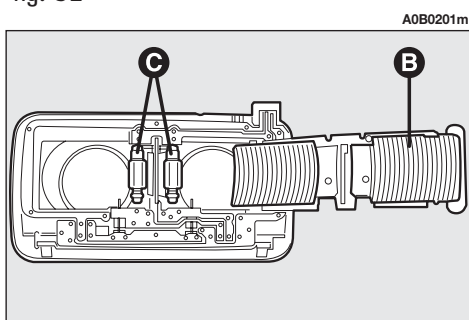

fig. 53
- Open the cover (B-fig. 53).
- Replace the bulb concerned (C-fig. 53) by pulling it outwards and freeing it from the lateral contacts ensuring that the new bulb is correctly fitted between the contacts.